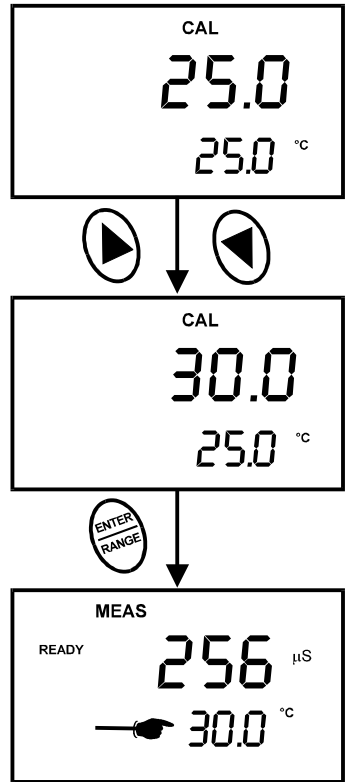

Figure 19 - Manual Temperature Compensation
7. Press **ENTER** to confirm the selected temperature and to return to the conductivity measurement mode. See Figure 19.